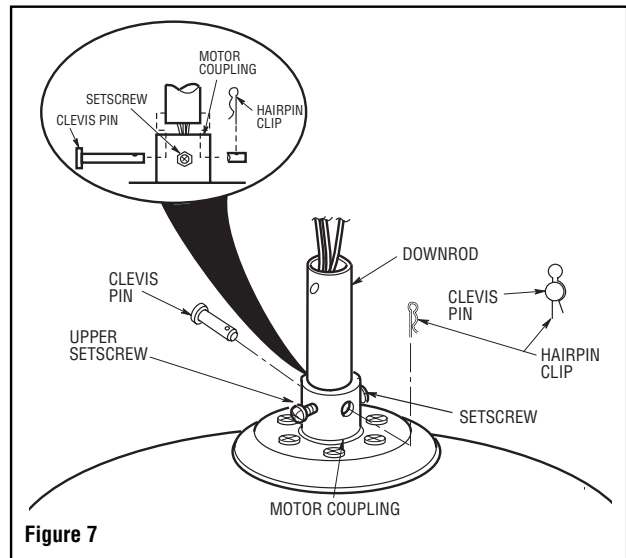

Figure 7
9. Separate, untwist and unkink the three 80" motor leads. Route the motor lead wires through the downrod. Remove the upper setscrew from the motor coupling. Align the clevis pin holes in the downrod with the holes in the motor coupling. Install the clevis pin and secure with the hairpin clip (Figure 7). The clevis pin must go through the holes in the motor coupling and the holes in the downrod. Be sure to push the straight leg of the hairpin clip through the hole near the end of the clevis pin until the curved portion of the hairpin clip snaps around the clevis pin. The hairpin clip must be properly installed to prevent the clevis pin from working loose. Pull on the downrod to make sure the clevis pin is properly installed. Reinstall the upper setscrew in the motor coupling. Check that the lower setscrew is tightened securely (Figure 7).